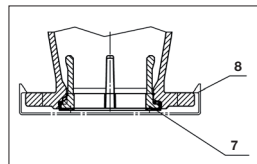
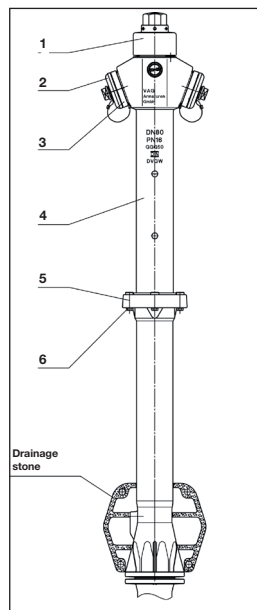

Figure 1
Figure 2: Hydrant Type AUD
- Remove the protective cap (8) before placing the hydrant on the pipeline (Fig. 1).
- The sealing ring (7) is pressed in capactively at the factory and is used as a sealing for the pipeline flange. No additional seal required.
- Before backfilling the pipe trench, assemble a suitable drainage stone (Fig. 2) for safe drainage of the hydrant.
- After backfilling the pipe trench, the upper pillar (4) of the hydrant can be subsequently adjusted via a special two-part loose-flange connection (5). The hexagonal screws (6) are loosened at the flange nut connection and the upper pillar (4) is turned in the desired position. When tightening the hexagonal screws (6), make sure the two screws at the flange joint are tightened first (maximum tightening torque for DN 80 = 25 Nm and for DN 100 = 38 Nm).
2 Putting into operation of type AUD (Fig. 2)